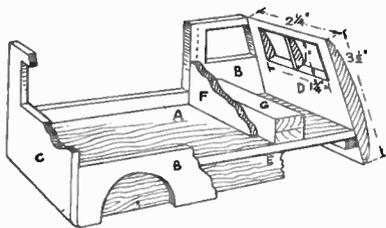

Fig. 2
measuring 7 ins. long, 2½ ins. wide, and ½ in. thick. The front edge of this piece must be planed or rasped to a slight angle to meet the front (D) of the van, and this angle is seen in Fig. 2. To the long edges of the floor the two sides (B) will be attached, and in Fig. 3 is given a diagram with all measurements clearly indicated for enlarging to full size on paper or direct on to the ½ in. wood. Note from this figure that the floor
The main front of the van (D) needs some little care in shaping and fixing. Its overall size and the size of the open panels facing the driver's seat are given in Fig. 2, and it can be gathered from this diagram how the piece fits the edge of the roof and the floor below where it is glued, a stiffening fillet of wood being glued along inside as shown. The main van itself is now almost finished, but it will be found at this juncture that the whole can be strengthened in places liable to strain or fracture by the addition of angular or square fillets of wood, say, $\frac{1}{2}$ in. or so square.